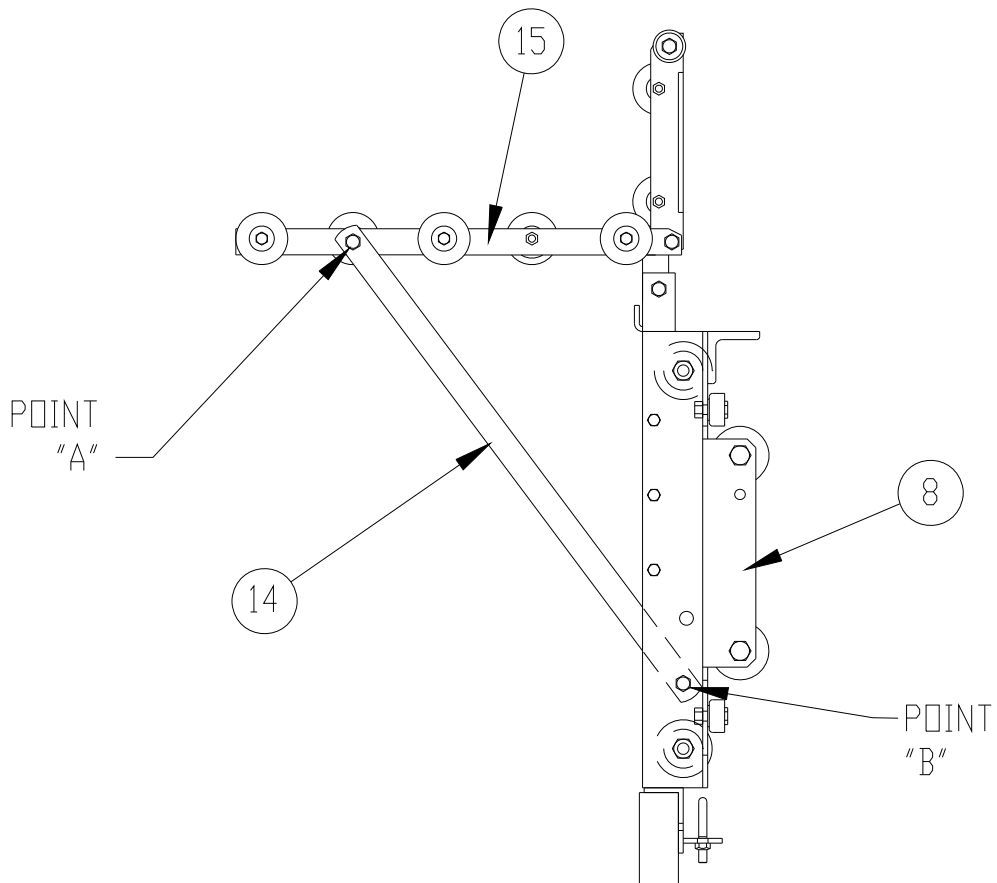

Figure 3-2.
4. Refer to Figure 3-2. Fasten the two support braces (14) onto the platform (15) at point "A" with the 3/8 X 1" bolts and nuts. Attach to the main frame (8) at point "B" with the 1/2 X 1" bolts and nuts. Tighten all bolts securely.